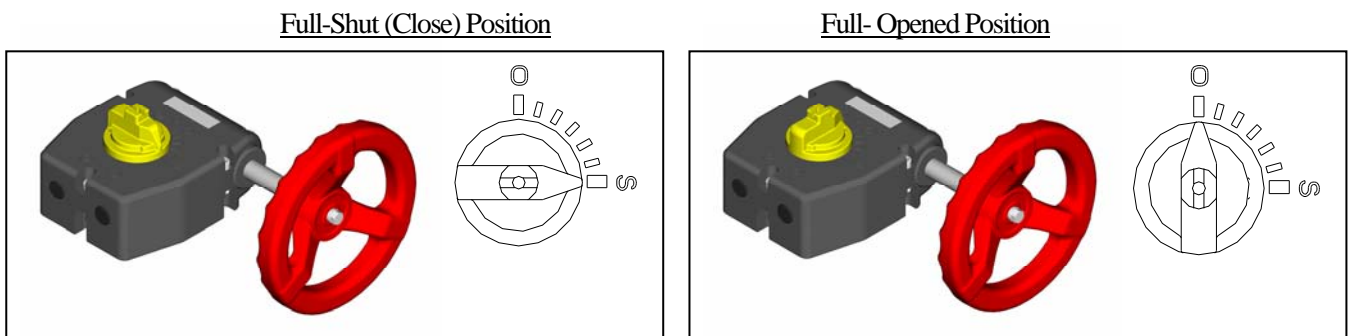

Fig. 7-2
- 3) In case of gear type (40-400 mm { 1 1/2''-16''}), the indicator shows the position of the disc on the top of gear box. (Fig.7-2)
- For the full-shut (close) position, the indication shows Shut (S).
- For the full-opened position, the indication shows Open (O).